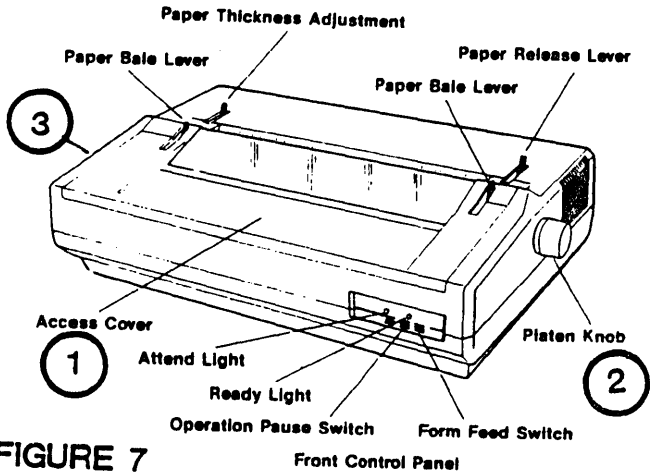

FIGURE 7
- a) With power off, remove the access panel (Figure 7, #1) by pulling it forward.
- d) Pull off the platen knob (Figure 7, #2).
- e) Lift off the cover (Figure 7, #3).